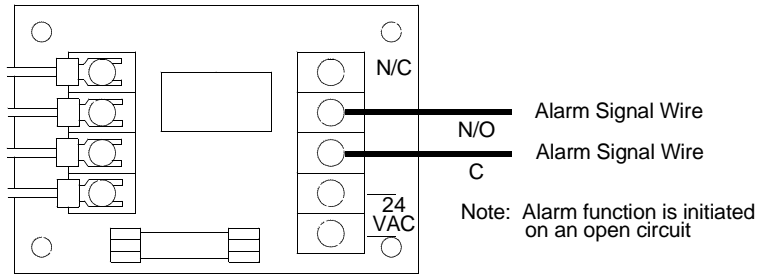

FIGURE 9
2. Connect one signal wire to the common (C) terminal and the other signal wire to the normally open (N/O) terminal on the terminal strip on the right side in the power supply box. (Figure 9)